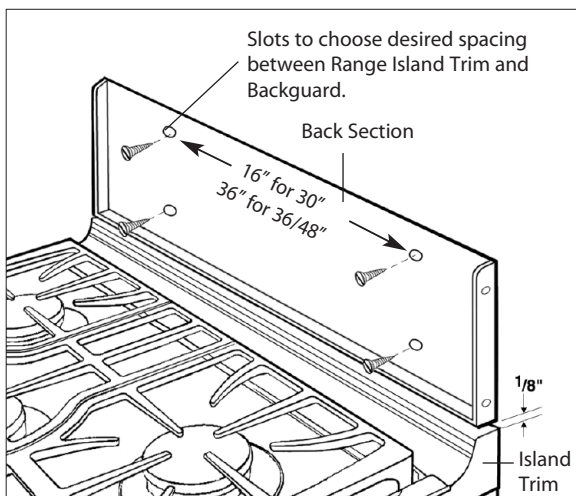

Fig.01
2. After unpacking all backguard system parts, locate the Back Section 1/8" above and centered over the Island Trim attached to the range.* Secure Back Section to wall with the appropriate fasteners (not supplied)(fig. 01).